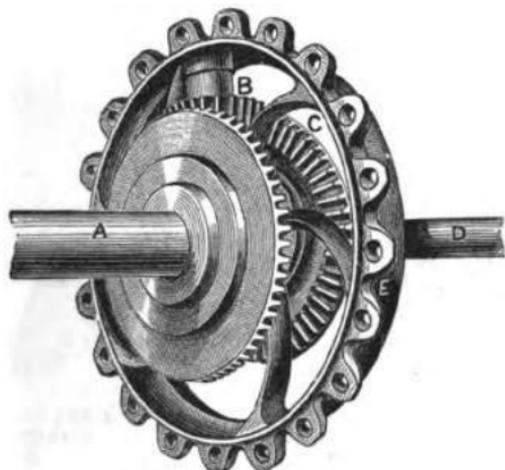
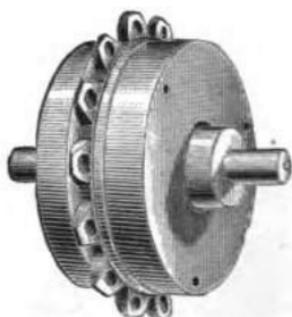

FIG. 38.—STARLEY'S DOUBLE DRIVING GEAR.
FIG. 40.—DRUM INCLOSING
Driving Gear. No gearing has approached it in successful application or general adoption, and, for the sake of those inexperienced in such affairs, we will repeat our original description. The sketch (Fig. 38) shows the gear as fitted to the left side of a machine. The axle, which extends from side to side of the machine, is shown by D. To the further end of this the right driving wheel is fixed firmly, as is the bevel cog (C); the left is loose, and free to revolve on it, but is attached to the other bevel cog (A), which forms part of the hub. Between these there is a crown pinion (B), the shape of which may be better understood if described as a conical-shaped cog. This revolves on a short centre,
is suspended, the wheels can be spun in different directions, or either held while the pedals are worked. Of course, back pedalling can be applied the same as forward. The whole is inclosed in a box or drum (see Fig. 40), part of which is the flange (E, in Fig. 38) of the chain pulley; on this the strap brake acts.
driven by the sleeves, not by the axle. A box or drum incloses the gearing (see Fig. 40), and is attached to the chain pulley; on the flange of this the strap brake acts, and, by checking the pulley, of course stops the driving power. The plan of using a continuous inner axle adds immensely to the strength and rigidity, although it slightly increases the weight of the machine. By fully describing this gearing now we need not again refer to it at length.